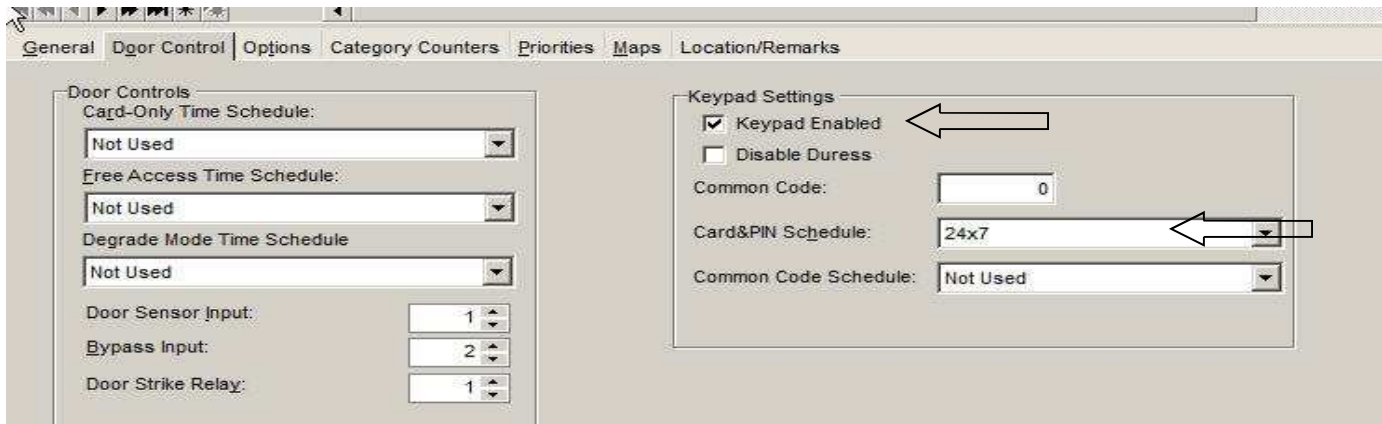

Figure 2.
1) The “Card&Pin” mode requires the user to swipe their badge at the reader, and they must also enter a 4 digit pin number which is configured in Personnel. The “Keypad Enabled” must be selected. The “Card&Pin: schedule must be configured. Refer to figures 2 and 3 for configuration of “Keypad Settings” and Personnel.